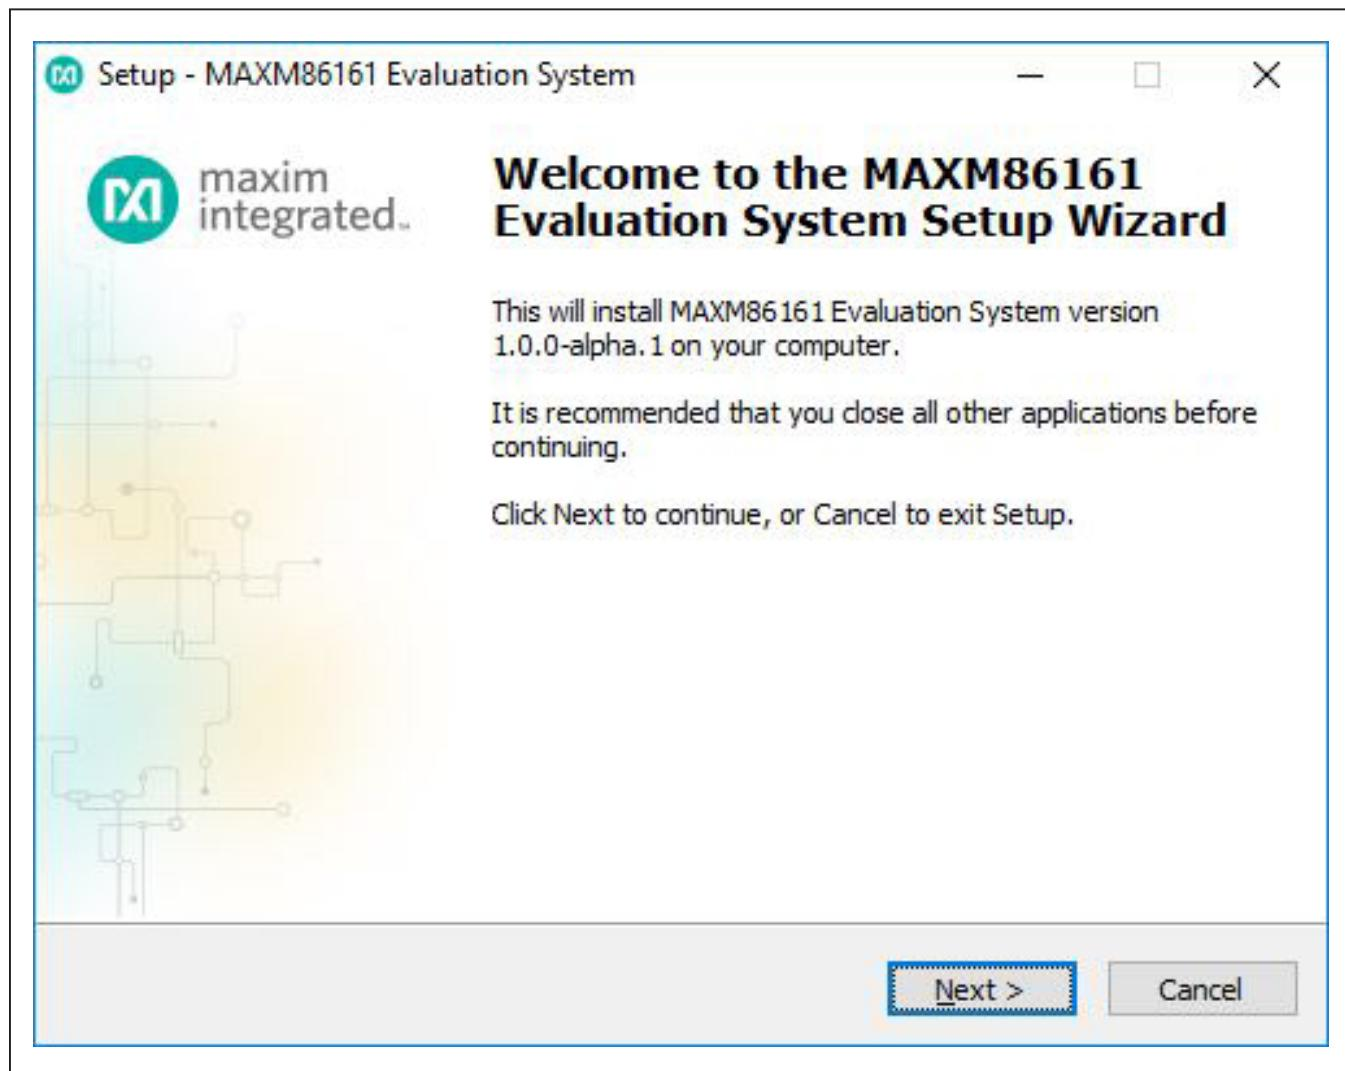

Figure 4. Setup MAXM86161 EV System GUI Software Step 1
- 5) Open up MAXM86161GUISetupVxxx.exe and follow the instructions from the pop-up windows as shown in Figure 4 to Figure 10.